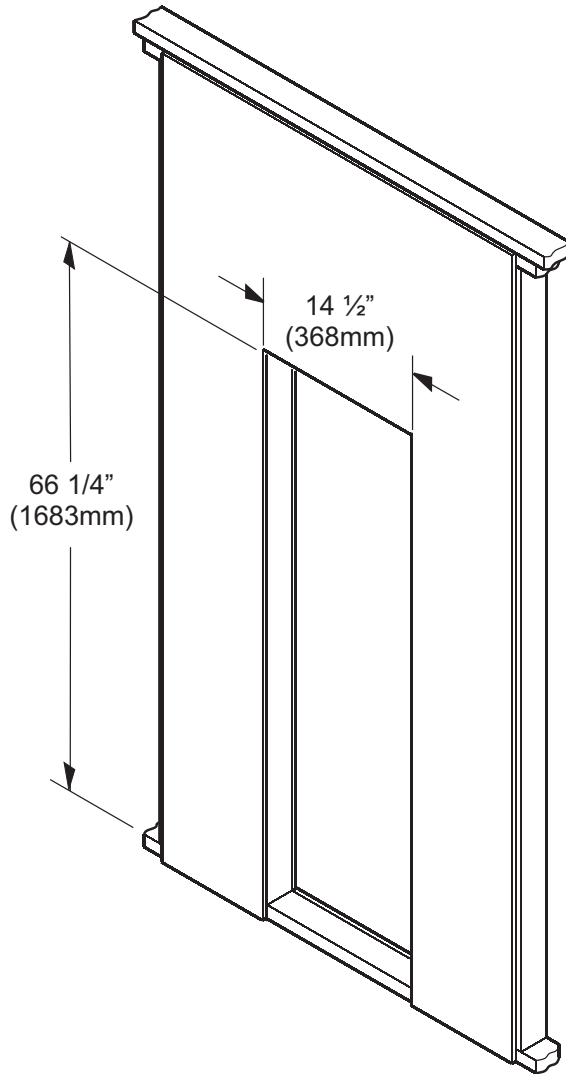
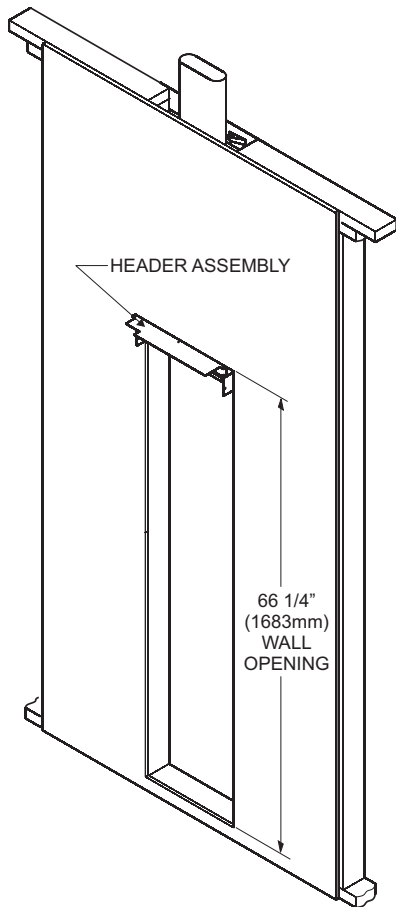

Figure 14
Figure 19
1. Provide an opening in the wall 14 1/2" (368 mm) wide and 66 1/4" (1683 mm) high measured from top of floor plate (See Figure 14 and Figure 19). Wall depth is to be 2" x 4" framing with 1/4" (6.5 mm) to 5/8" (16 mm) sheeting.
## Plastering (Figure 19)